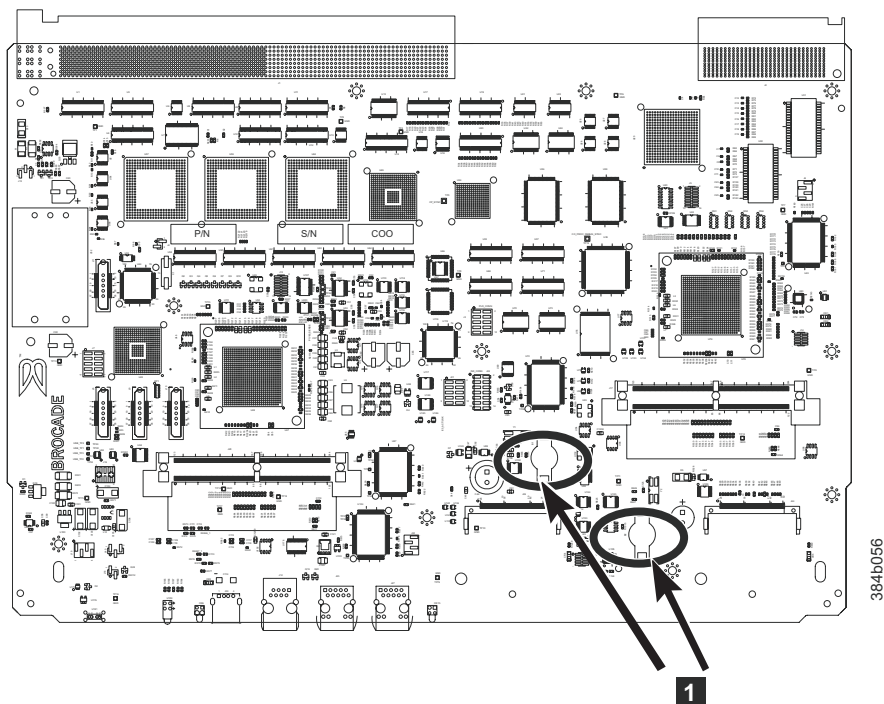

Figure 50. Battery locations on the CP8 blade
6. Go to the locations and remove the two BR1225 batteries from each of the PCBAs (see **1** in Figure 50):